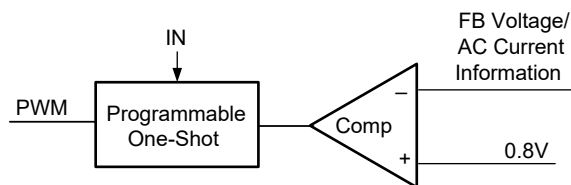

Figure 4. Simplified Control Schematic
The control algorithm of AOZ2254TQI-11 is constant-on-time PWM control with input feed-forward. The simplified control schematic is shown in Figure. 4. The high-side switch on-time is determined solely by a one-shot whose pulse width is inversely proportional to input voltage (IN). The one-shot is triggered when the internal 0.8V is higher than the combined information of FB voltage and the AC current information of inductor, which is processed and obtained through the sensed low-side MOSFET current once it turns-on. The added AC current information can help the stability of constant-on time control even with pure ceramic output capacitors, which have very low ESR. The AC current information has no DC offset, which does not cause offset with output load change, which is fundamentally different from other V^2 constant-on time control schemes.